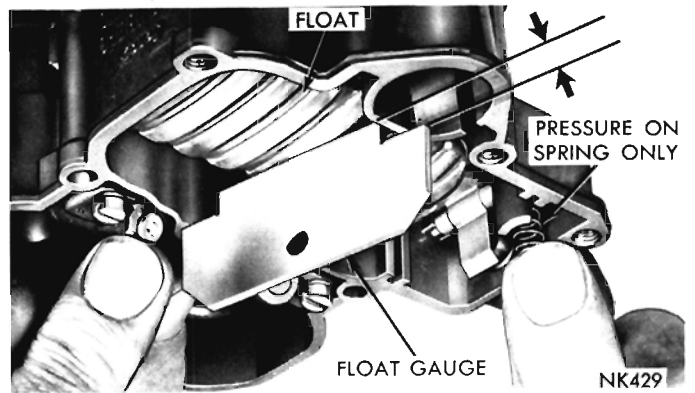

Fig. 15—Measuring the Float Setting
(1) Invert the main body so that the weight of the floats only is forcing the needle against the seat. **Be sure hinge pin does not drop out of the float hinge.** Hold down with the fulcrum pin spring.
(2) Using Tool 73725 or a "T" scale, measure the float level, as shown in (Fig. 15). There should be 5/32 inch from the surface of the fuel bowl to the crown of the float at the center.